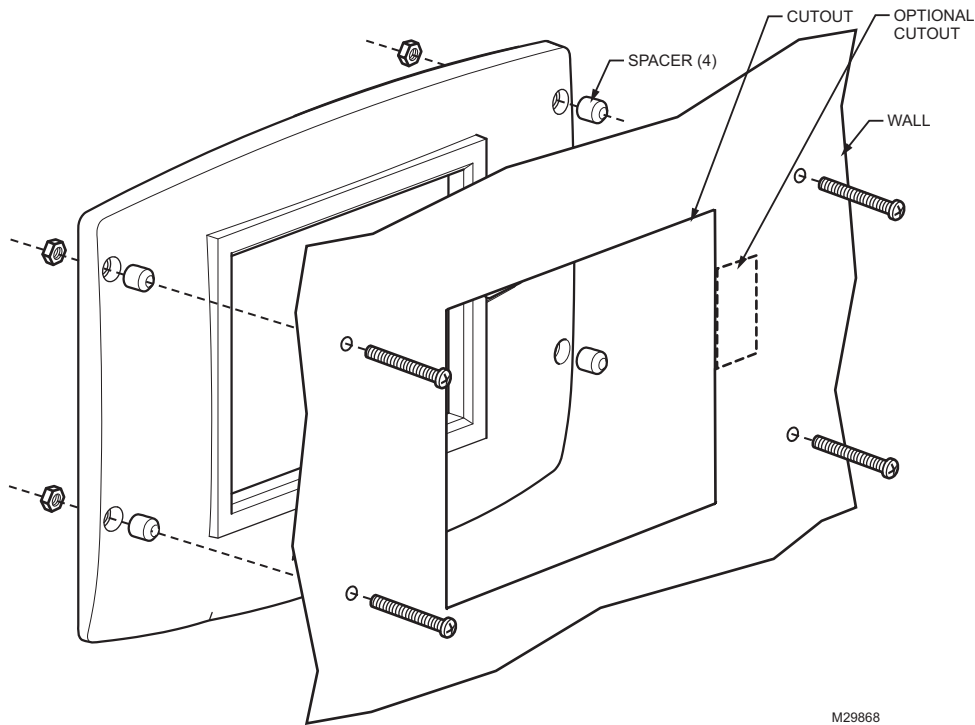

Fig. 10. Mounting the S7999C OI Display behind the door panel.
2. Cut an opening to facilitate mounting the display into the door panel. See Fig. 1 for the dimensions for mounting the display from the front of the door. See Fig. 10 for mounting the display to the back of the door. If desired, cut a notch so the LEDs will be visible as well. Tear off templates are also available on the back pages of this Manual (see Fig. 121 on page 63 and Fig. 122 on page 65).
5. Secure the OI Display to the panel using the four #6-32 screws and nuts, as shown in Fig. 10. (Standoffs are provided for mounting the OI Display from the back of the door.)